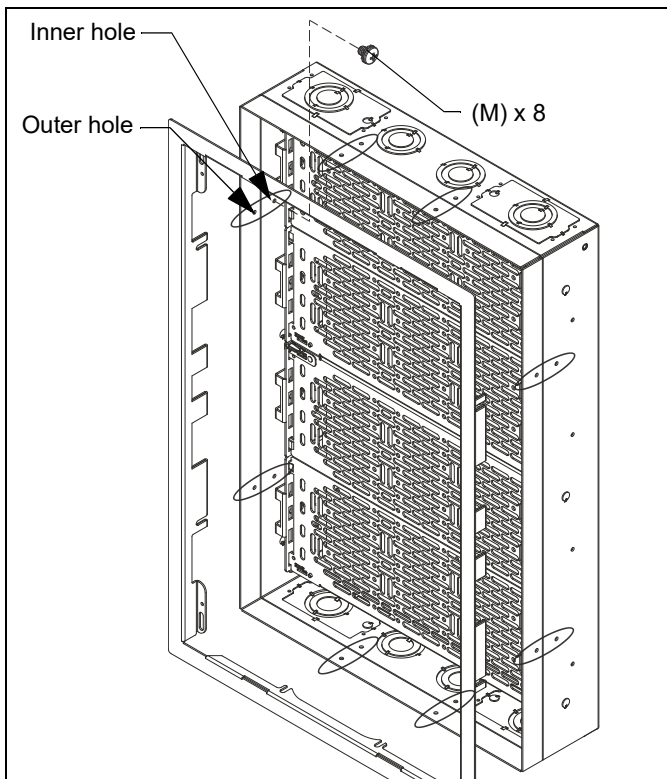

Figure 15
1. Loosely install eight 10-24 x 1/4" Phillips head screws with external teeth (M) into holes in PAC527L sides. (See Figure 15)
NOTE: If the outer edge of the PAC527L needs to be removed, use the inner hole for flange attachment. (See Figure 15)